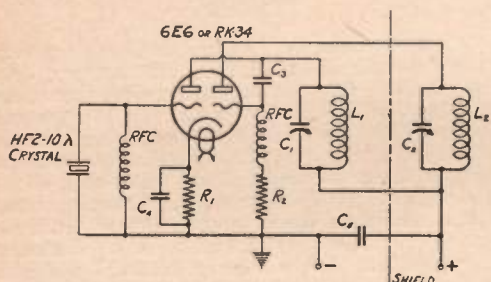

Figure 3. Dual-Triode Oscillator-Doubler For 5-Meters
- L1, C1, L2, C2, Same as in Figure 3.